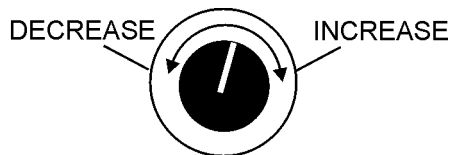

Figure 34. Voltage Adjust Control Knob
10. If the voltage is not within the specified tolerance, use the voltage adjustment control knob (Figure 34) to increase or decrease the desired voltage.